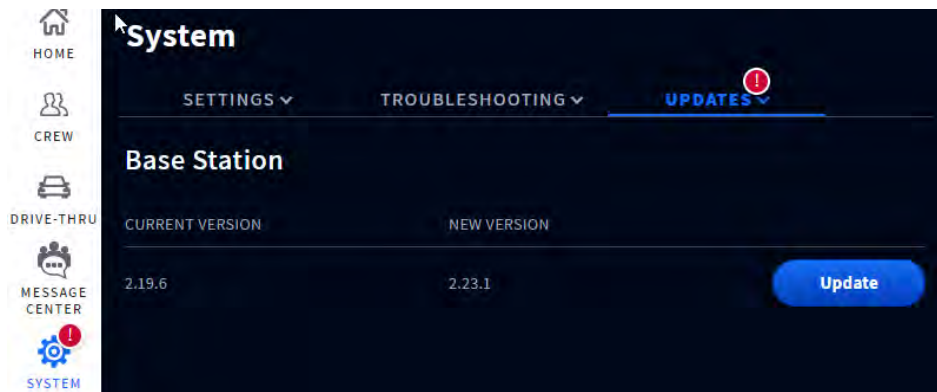

Fig. 5.4
4. Tap the blue Update button that appears on the right. See Fig. 5.4.